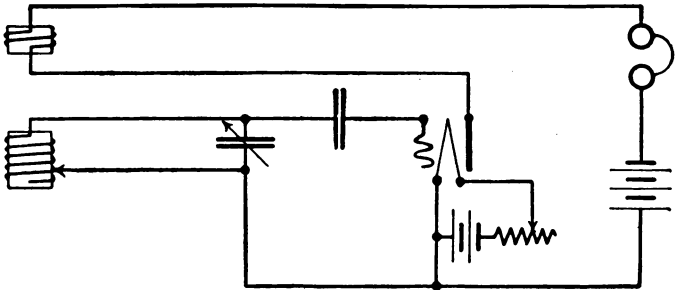

Fig. 18.—The Typical Tickler Coil Circuit for Regeneration or Undamped Wave Reception.
A. **Tickler coil coupling.** The tickler coil, Fig. 18, is most often used to amplify spark signals and to make the